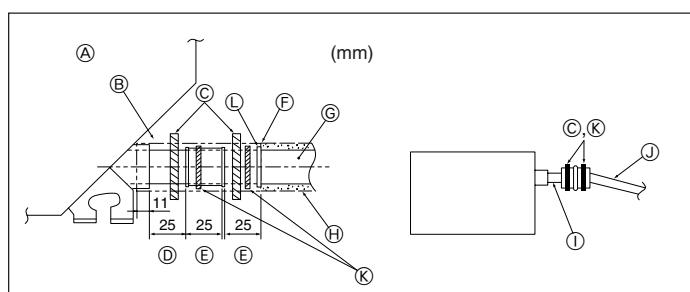

Fig. 3-5
- ⑨ O. D. ø32 PVC TUBE
- ⑩ Make it as large as possible
- ⑪ Indoor unit
- ⑫ Make the piping size large for grouped piping.
- ⑬ Downward slope (1/100 or more)
- ⑭ O. D. ø38 PVC TUBE for grouped piping. (9 mm or more insulation)
- ⑮ Up to 85 cm
1. Connect the drain socket (supplied with the unit) to the drain port. (Fig. 3-5) (Affix the tube using PVC adhesive then secure it with a band.)
- ⑯ Unit
- ⑰ Insulating material
- ⑱ Band (large)
- ⑲ Drain port (transparent)
- ⑳ Insertion margin